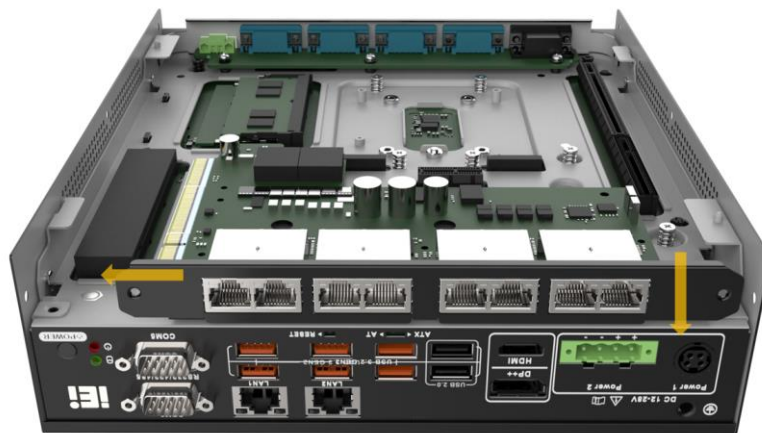

Figure 3-4: GPOE-XM81-8P Installation
- Step 1:** Insert the golden finger of the GPOE-XM81-8P module into the PCIe x16 slot (Figure 3-4).